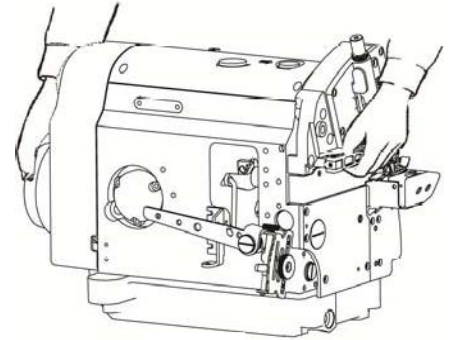

Fig.3
2. To carry the machine, hold the machine pully tightly with your right hand and the machine arm with your left upper arm. If the machine and/or your hands are stained with oil, the machine may be easy to slip out of your hands and fall to the floor. Therefore, wipe off the oil carefully.(Fig.3)